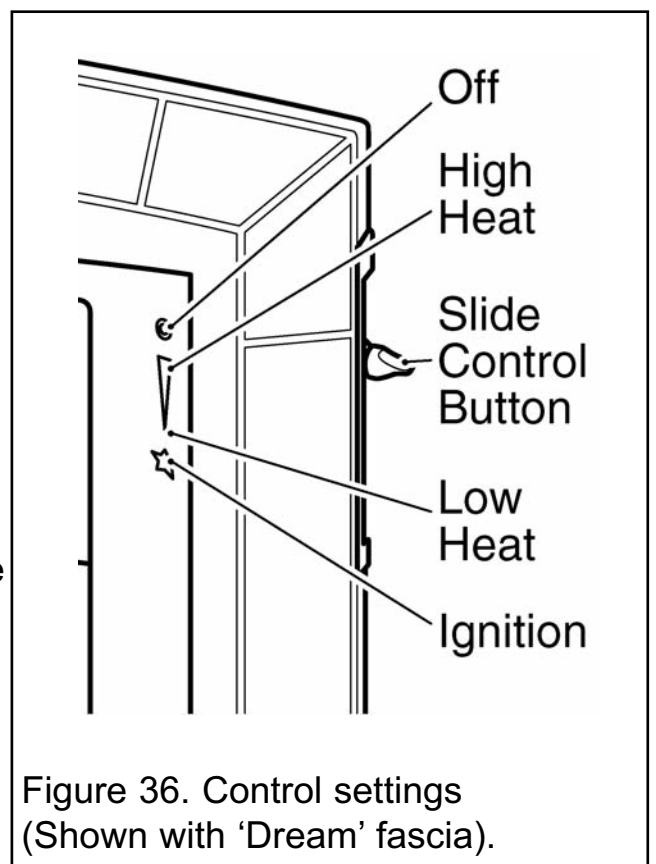

Figure 36. Control settings (Shown with 'Dream' fascia).
The control position markings on the fascia are shown in figure 36.
5. Gradually slide the button up to increase the burner setting. The burner should be at its maximum setting at the high heat position shown in figure 36. You should feel a check to the button movement at this position.